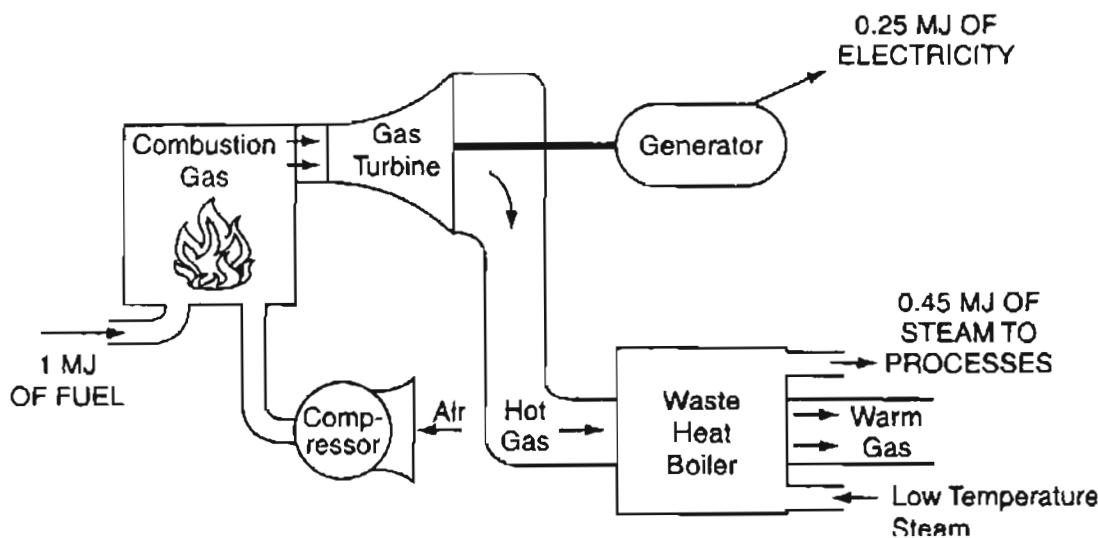

Figure SAT27.2P2
- Cogeneration plants produce both electricity and steam. Figure SAT27.2P2 shows such a plant. What will be the percent fuel savings to get the electricity and steam from using the cogeneration plant in contrast to using two separate plants, one to produce 0.25 MJ of electric energy and one to produce 0.45 MJ of thermal energy in the steam?